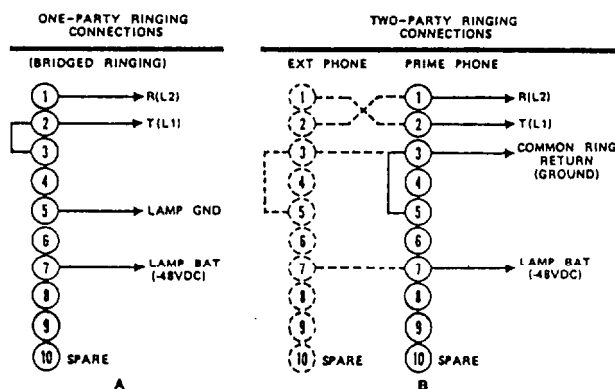

Figure 6-16.—Type G (version 2) ringer connectors.
**RINGER CIRCUIT.**— The ringer can be connected to the telephone line for one- or two-party service. Figure 6-16, views A and B, illustrates how the telephone set is connected for the service desired. For two-party service, ringing is extended to the prime telephone set over the R (L2) lead and to the extension set over the T (L1) lead.